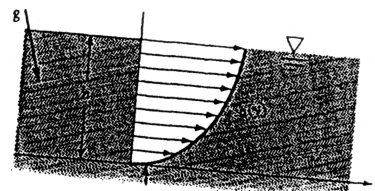

Fig. P4.36
**4.43** For the draining liquid film of Fig. P4.36, what are the appropriate boundary conditions (a) at the bottom  $y = 0$  and (b) at the surface  $y = h$ ?